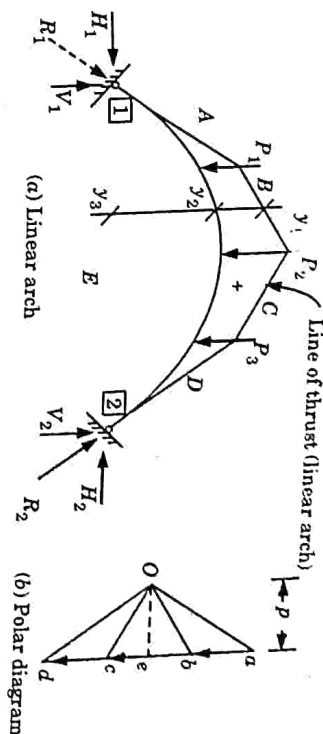

Fig. 5.4.1
- Fig. 5.4.1(a) indicates the funicular polygon (or force polygon) corresponding to the polar diagram of Fig. 5.4.1(b).